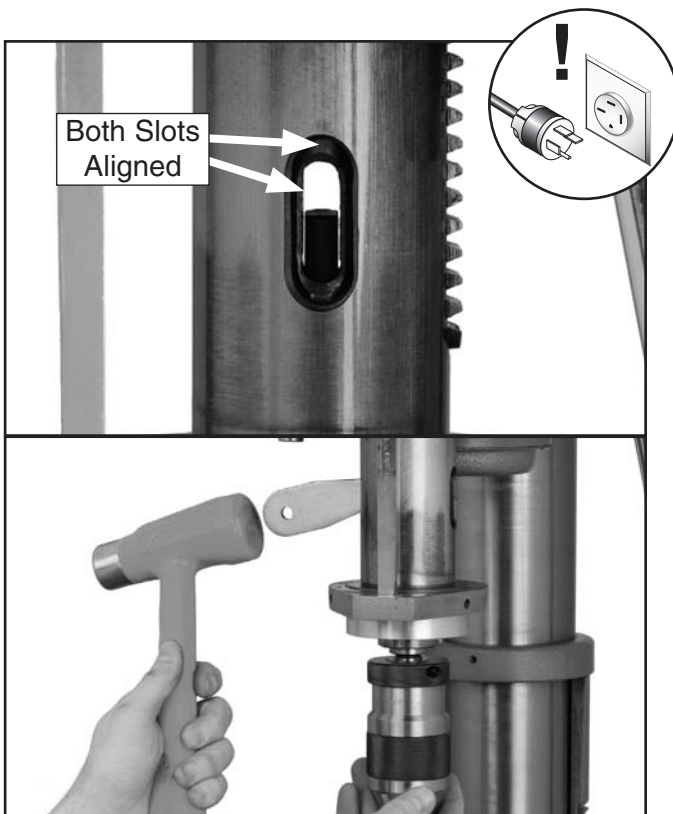

Figure 11. Using drift key to remove arbor.
4. Rotate the spindle until the inner drift key slot is aligned with the outer slot, as shown in **Figure 11**. You will see through the spindle when the slot is properly aligned.
6. Hold the drill chuck with one hand, and tap on the drift key with a rubber or wooden mallet (**Figure 11**), until the arbor releases.